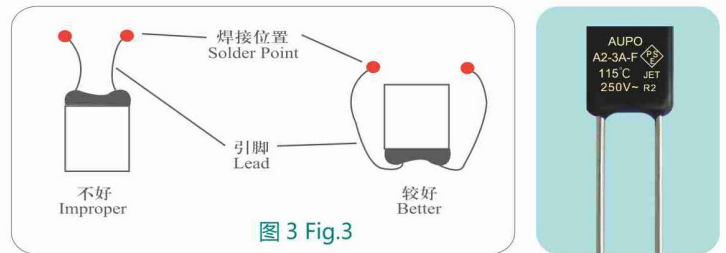

图 3 Fig.3
- 尽可能利用长一些的引脚, 长一些的引脚允许较长的焊接时间及减少过热的可能性。(见图 3) 为如何在较小的位置保留长一些的引脚的例子。在引脚较短的情况下, 在焊接时要用尖嘴钳或其它工具夹在引脚上焊点和保险丝体之间位置上以散热, 避免焊接热传入温度保险丝内部。同时焊接温度应控制不要过高, 焊接时间尽可能短。
- Using the lead wires as long as possible when soldering, longer leads permit a longer soldering time and reduce the possibility of overheating. Fig.3 is an example of how to keep a longer lead wires when a thermal cutoff is installed in a small space. It is recommend that using a heat sink between the soldering point and sealant to minimized the heat transmission to thermal cutoff. Avoid the soldering temperature is too high and keep the soldering time as short as possible.